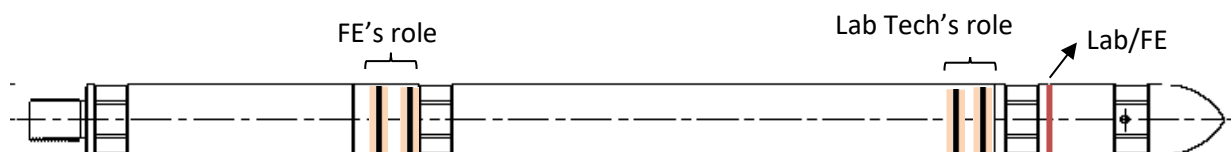

Figure 5. Parbacks and O-rings location for 6-pin gauge
3. Change the O-rings and parbacks at the top and bottom of electronic section as in **Figure 5**.